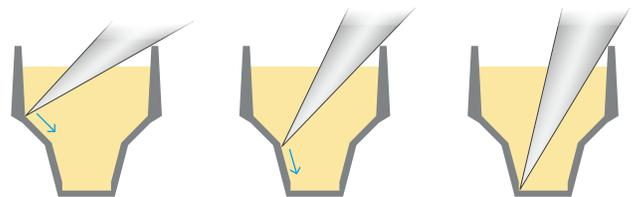

Figure 5. Slide pipette tips down the wall.
2. Gently slide the pipette tips down the wall to the bottom of the well to avoid bumping and scratching the monolayer. Gently touching the bottom at the edge is acceptable to ensure all tips are at the correct depth (Figure 5).